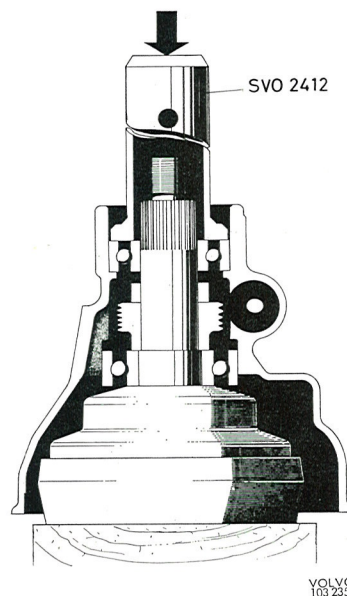

Fig. 4-61. Fitting the output shaft
3. Place a wooden block under the output as support. Fit the speedometer driving gear and spacer. Press on the rear casing with drift SVO 2412, see Fig. 4-61.